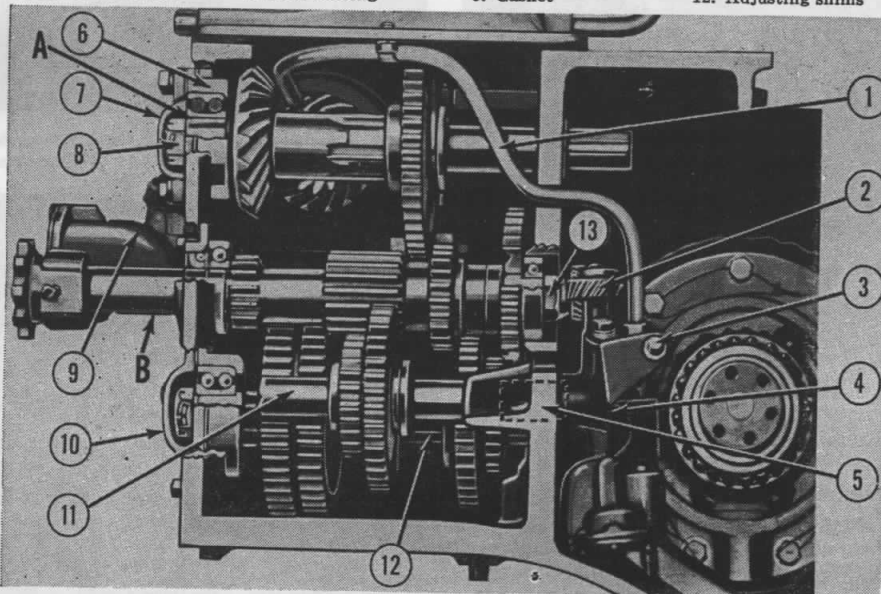

Fig. MH 311—Transmission cross-section—Models 101, 101Jr., 101SR, 101 Super, 102JR, 102SR, 102G, JR. and 102G. SR.
**214. MAINSHAFT.** To remove the transmission mainshaft (B—Fig. MH 311), first remove the belt pulley and power take-off drive shaft as in paragraph 211, shifter rails and forks as in paragraph 212 and oil pump as in paragraph 213. The next step in the removal procedure is to move the mainshaft forward and remove the front bearing, which requires the following preliminary work: